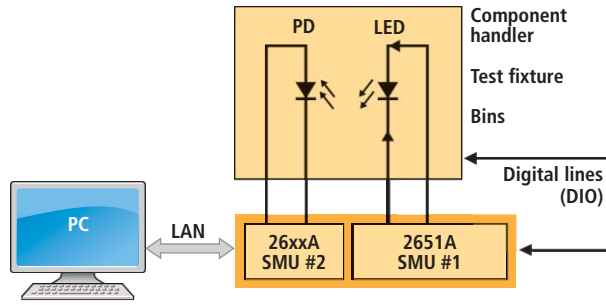

FIG. 3. A test system for a single HB-LED, which uses two source-measure units (SMU).
A system configuration for testing one HB-LED at a time is shown in Fig. 3. The component handler transports the individual HB-LED to a test fixture, which is shielded from ambient light and houses a photodiode (PD) for light measurements. Two SMUs are used: SMU #1 supplies the test signal to the HB-LED and measures its electrical response, while SMU #2 monitors the photodiode during optical measurements.